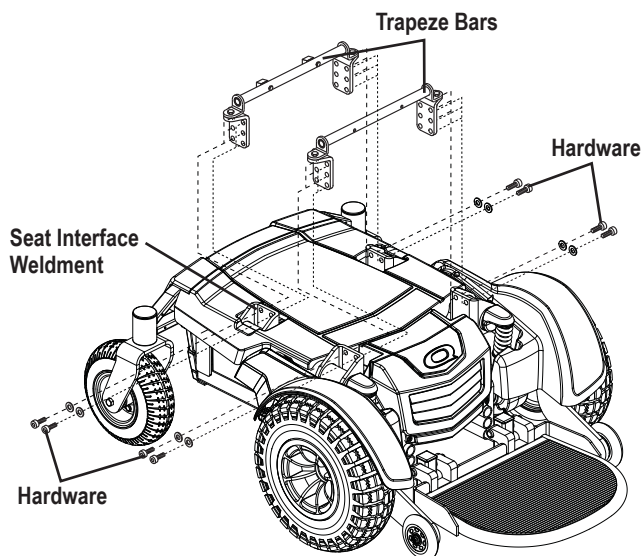

Figure 9. Seat Height/Angle Adjustment
7. Remove the hardware that attaches the trapeze bars to the seat interface weldments. **See figure 9.**